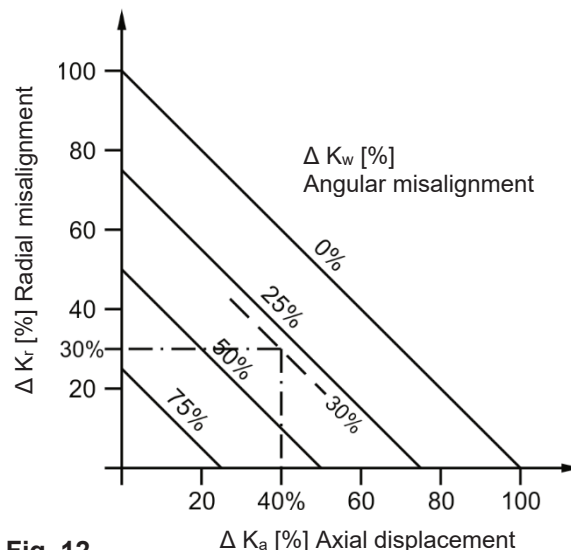
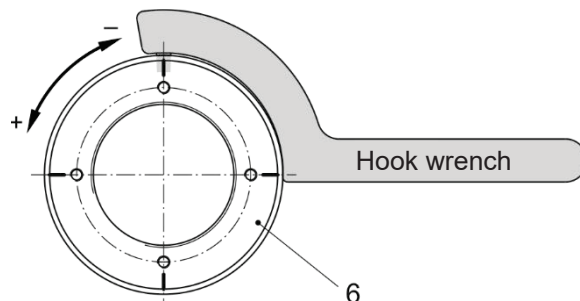
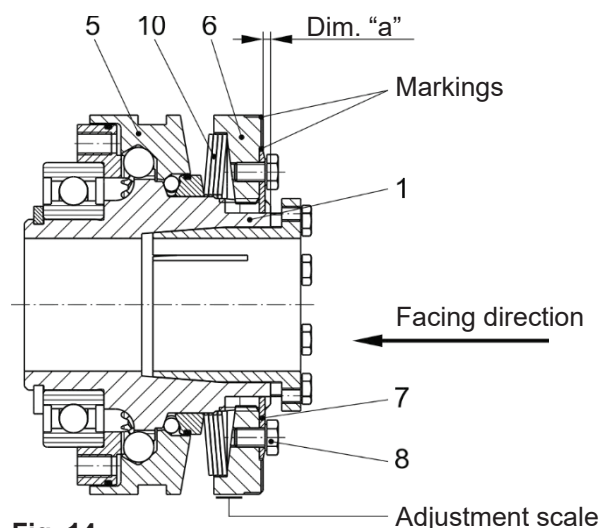
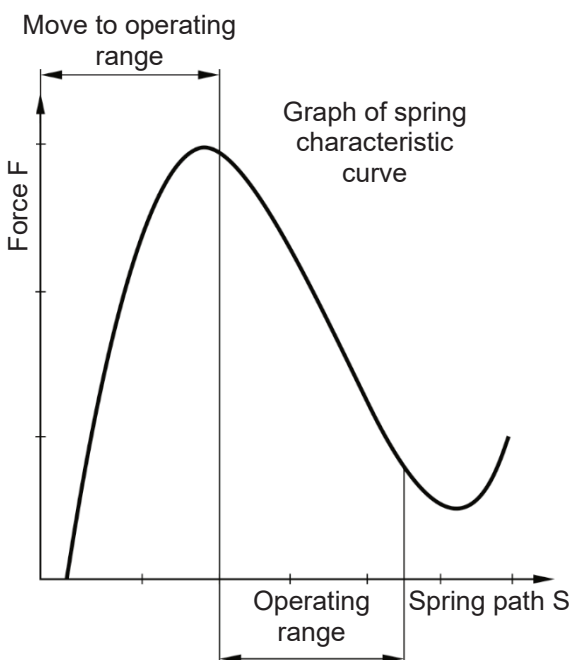

Fig. 12
Fig. 13
Fig. 14
Fig. 15
If more than one kind of misalignment takes place simultaneously, they influence each other. This means that the permitted misalignment values are dependent on one another, see Fig. 12. The sum total of the actual misalignments in percent of the maximum value must not exceed 100 %.
Torque adjustment is carried out by turning the adjusting nut (6). The installed cup springs (10) are operated in the negative range of the characteristic curve (see Fig. 15); this means that a stronger pre-tensioning of the cup spring results in a decrease of the spring force.
It is possible to check the **"Spring operation in the operating range"** (Fig. 15) using the dimension "a" (distance from the adjusting nut (6) facing side to the hub (1) facing side, as shown in Fig. 14).
Turning it anti-clockwise causes an increase in torque. You should be facing the adjusting nut (6) as shown in Fig. 13 and Fig. 14.
- b) Remove both locking screws (hexagon head screws Item 8) from the adjusting nut (6).
- c) Turn the adjusting nut (6) using the adjustment scale on the outer diameter of the adjusting nut (Item 6 / Fig. 14) clockwise or anti-clockwise until the required torque is reached. The required torque results from the marking overlap on the locking ring (7) as well as on the adjusting nut (6) and the percent value of the adjustment scale on the adjusting nut (6), as shown in Fig. 14.
- d) If necessary, the adjusting nut (6) must be turned slightly, so that both threaded holes for the locking screws (8) align with one of the bores in the locking ring (7).
- e) Paint both locking screws (8) with Loctite 243 and screw them into the adjusting nut (6).
Adjusting the adjusting nut (4) or distorting the cup spring (9) outside of the cup spring characteristic curve (see Fig. 12) stops the clutch functioning.
The inspection dimension "a" (see Table 3) can show deviations due to construction tolerances or to clutch wear. After de-installing the clutch (e.g. due to cup spring replacement), the clutch must be re-adjusted and calibrated using dimension "a" (see Table 3 and Fig. 14).